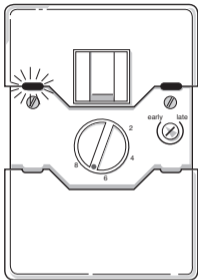

Figure 1 ZV210 Switch Open
- Slide down the front of the cover to expose the security controls (See Figure 1).